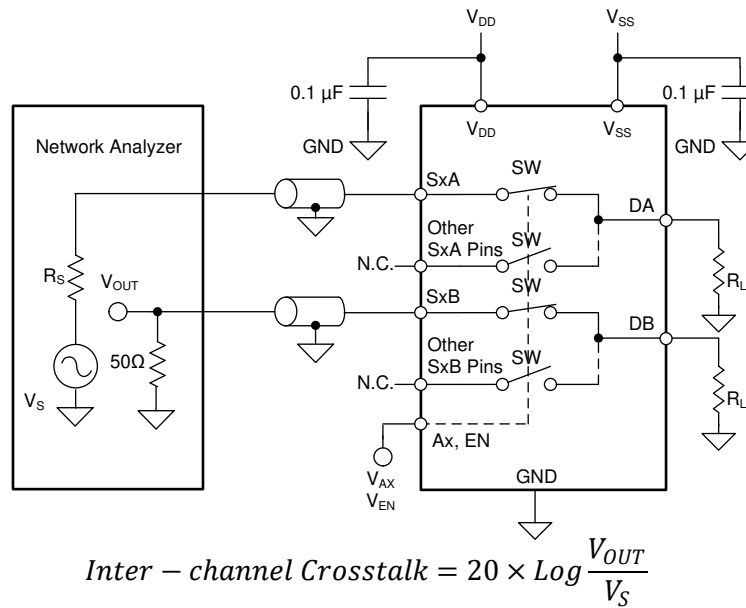

Figure 7-9. Inter-channel Crosstalk Measurement Setup
2. Inter-channel crosstalk ($X_{TALK(INTER)}$): the voltage at the source pin (S_x) of an on-switch input in a different channel, as shown in Figure 7-9. Inter-channel crosstalk applies only to the TMUX7309F device.